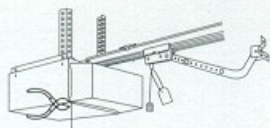

Figure 6-1
- **CUT OFF** antenna. (Figure 6-1)